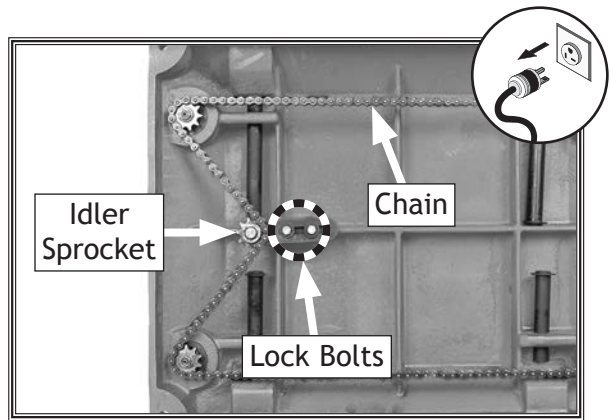

Figure 51. Headstock height chain adjustment (shown without stand for purpose of illustration).
2. Remove motor access panel to access headstock height chain shown in **Figure 51**.
3. Loosen two chain tension lock bolts, then push idler sprocket against chain with moderate pressure to eliminate slack in chain. While maintaining pressure on idler sprocket, re-tighten bolts (see **Figure 51**).